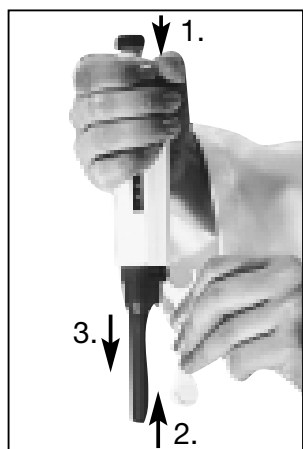

Fig. 11
2. Place the tooth of the opening tool between the tip ejector and the tip ejector collar to release the locking mechanism (Fig. 11).